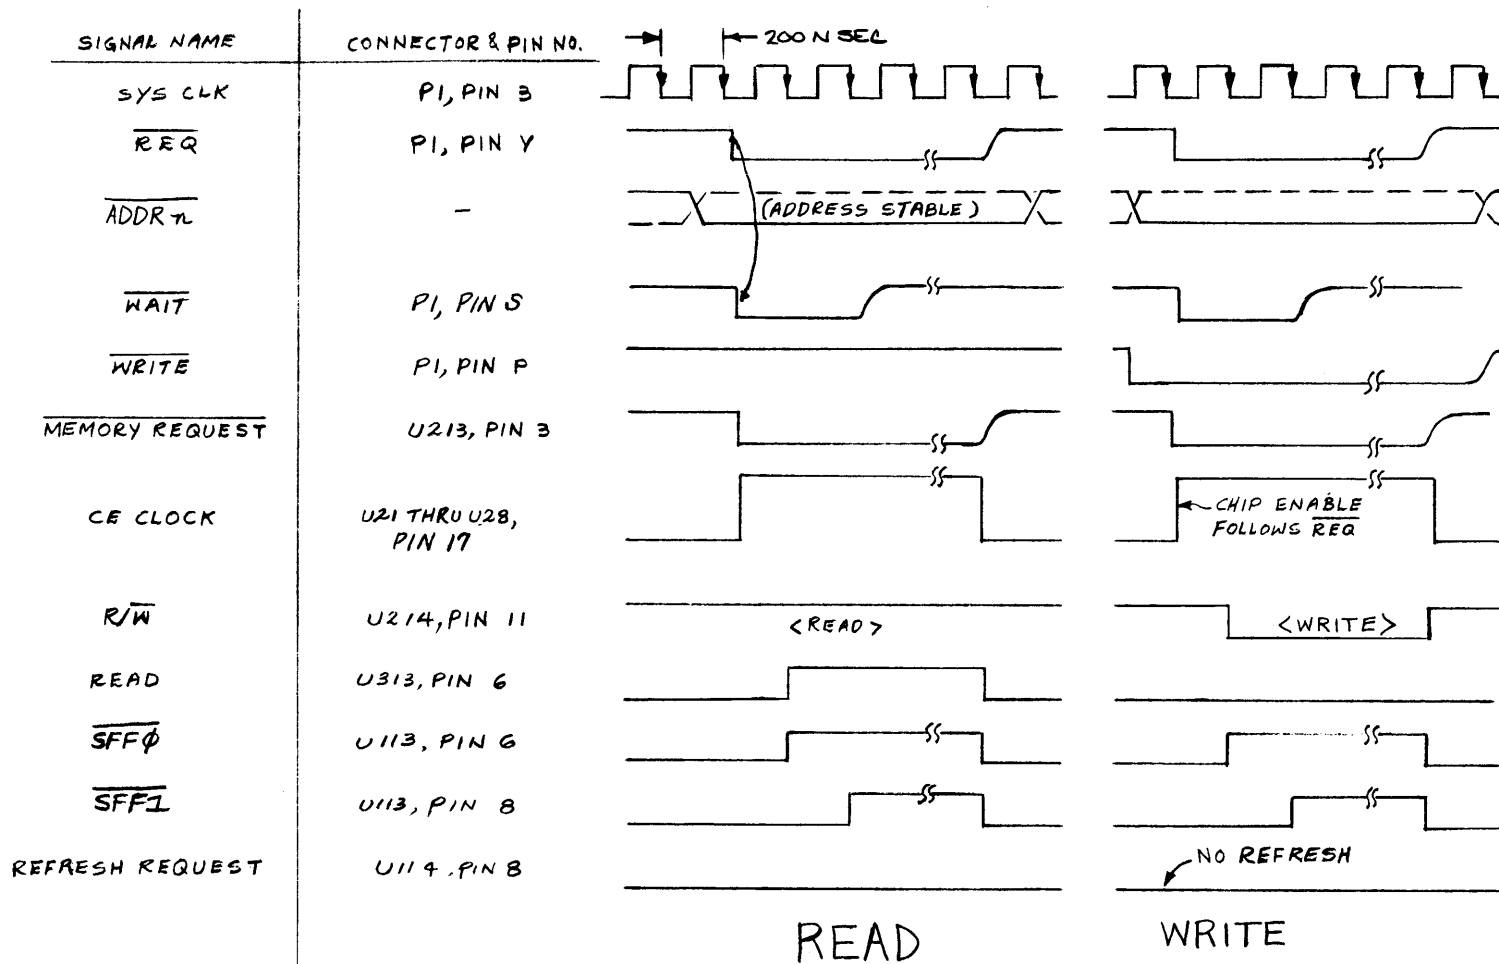
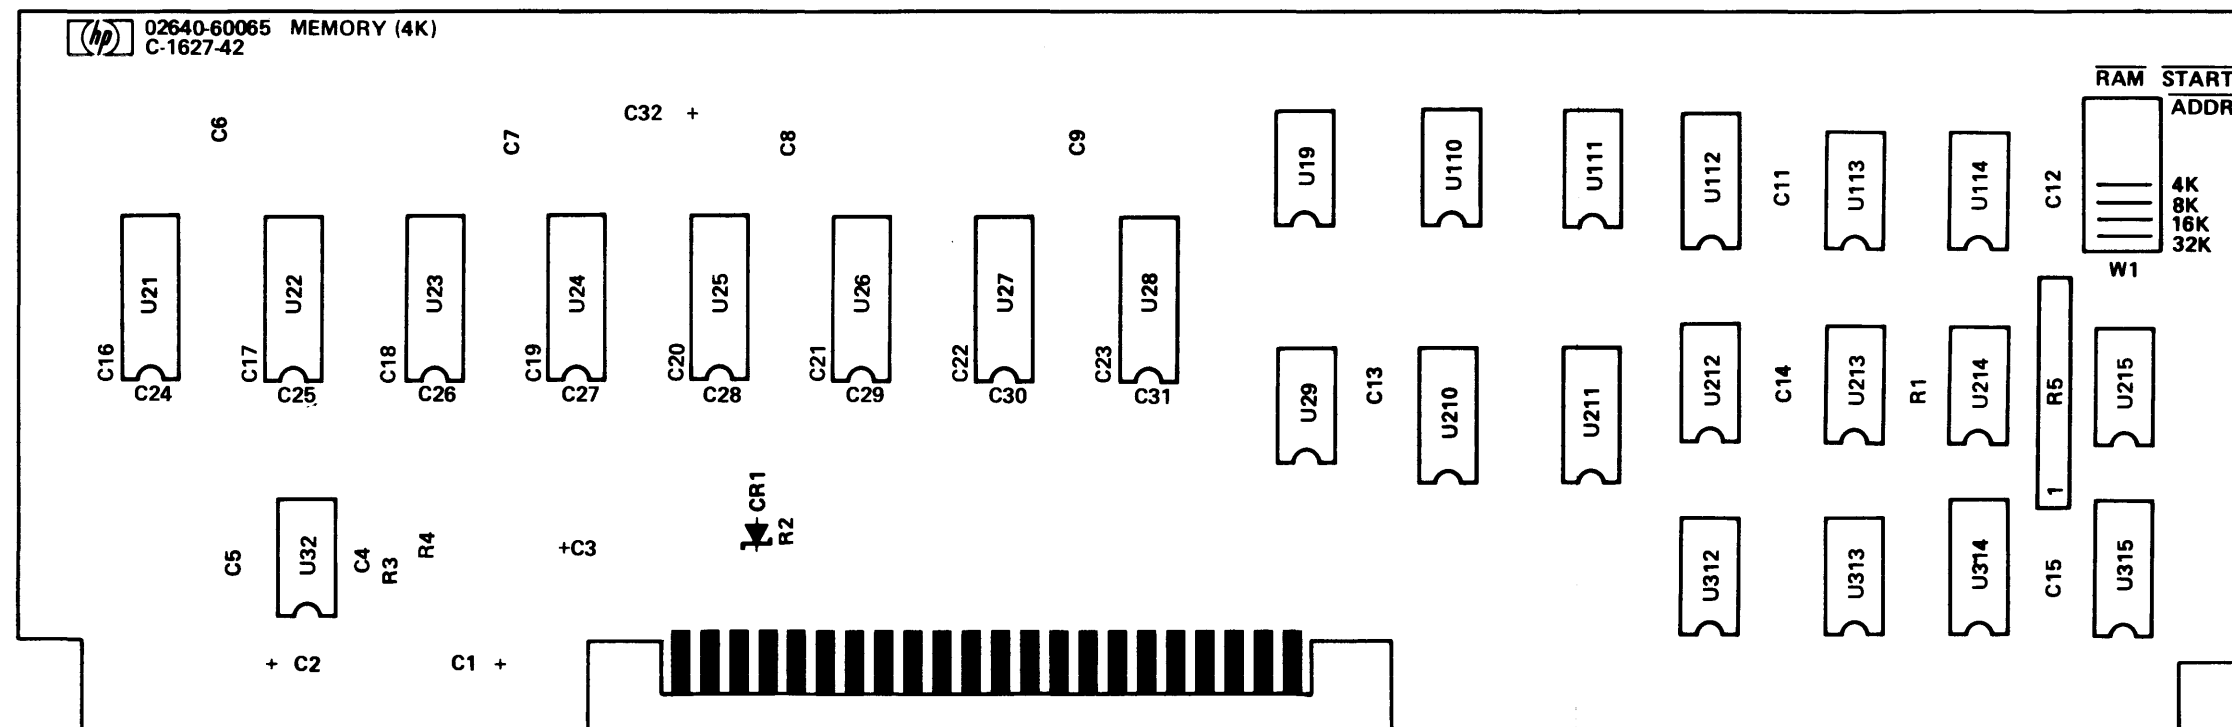

Figure 3
Figure 5
3.0 FUNCTIONAL DESCRIPTION. Refer to the block diagram (figure 1), schematic diagram (figure 2), timing diagrams (figures 3 and 4), component location diagram (figure 5), and parts list (02640-60065) located in the appendix.
3.1.2 A read operation on the memory array requires that  $\overline{\text{R/W}}$  (Pin 12) be high and that all address inputs be stable when CE CLOCK (Pin 17) goes high (+12V). Data Out (DO) at Pin 7 is then routed to the terminal bus through bus drivers (U19 and U110). (Refer to figure 3 for read/write timing explanations.)